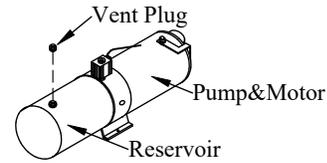

Figure 8: Vent plug.
7. **Install** the vent plug provided into the pump reservoir (Figure 8).